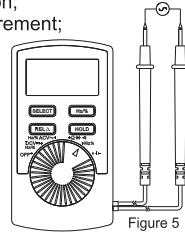

Figure 5
**4. Measuring Frequency and Duty Cycle(See Figure 5)**